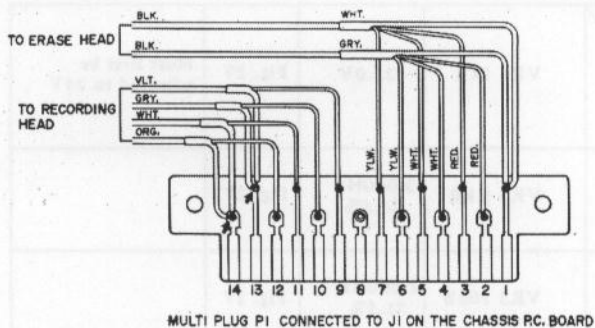
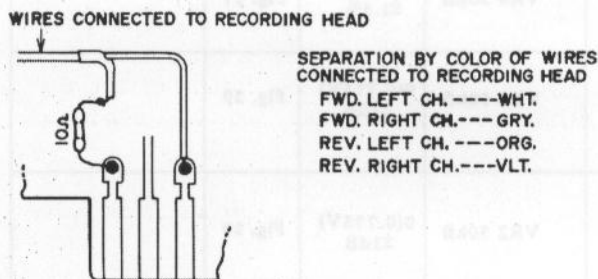

Fig. 33
Fig. 34
1. As shown in Figs. 33 and 35, disconnect the ground side wires connected to multi plug recording head, and connect a 10Ω fixed resistor in series between the ground wires as shown in Fig. 34.